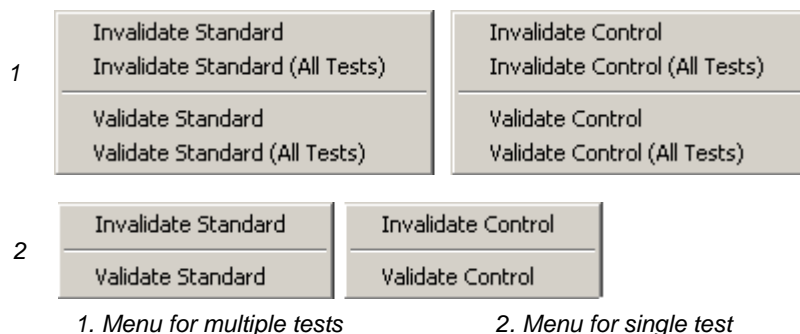

Figure 5-54. Invalidate and Validate Shortcut Menus
1. Right-click in the row containing the standard or control you want to validate or invalidate. See Figure 5-54. Select the desired menu item to apply. When invalidating, the **Name** box turns red with an asterisk preceding it. When validating, the Name box reverts to black text.